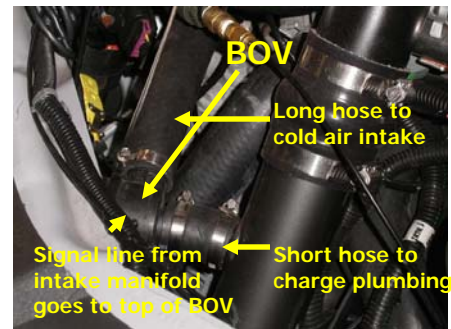

Fig. 24
24. Install the cold air intake – install the mass air flow (MAF) sensor in the intake pipe supplied. Using the couplings, clamps and air filter supplied, install the intake system and secure the anti-vibration mount. Reconnect the MAF sensor connection and tighten all the clamps including the crankcase breather and compressor bypass valve (Figure 24).